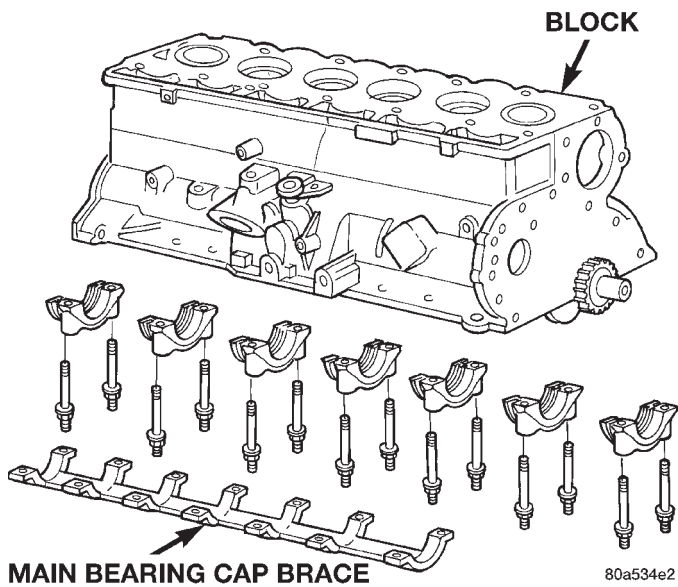

Fig. 53 Main Bearings Caps and Brace
- (6) Raise the vehicle.
- (7) Drain the engine oil.
- (8) Remove the oil pan and gasket.
- (9) Remove main bearing cap brace (Fig. 53).
(11) Install main bearing cap brace (Fig. 53). Tighten nuts to 47 N·m (35 ft. lbs.).
(12) Install the oil pan and gaskets as outlined in the installation procedure.
(13) Lower the vehicle.
(14) Install the engine cylinder head, push rods, rocker arms, bridges, pivots and engine cylinder head cover.
(15) Fill the crankcase with engine oil.